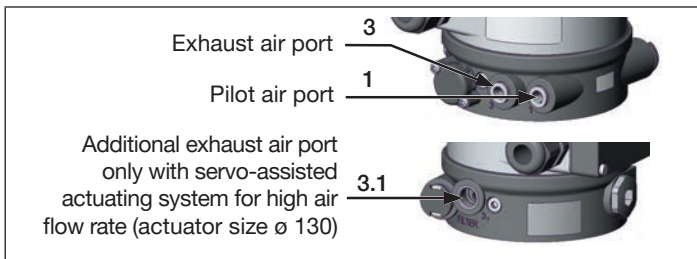

Fig. 9: Pneumatic connection
- Connect the control medium to the pilot air port (“Fig. 9”: 1) (3– 7 bar; instrument air, oil-, water- and dust-free).
- Install the exhaust air line or a silencer onto the exhaust air port (“Fig. 9”: 3) and – if available – to the additional exhaust air port (“Fig. 9”: 3.1).